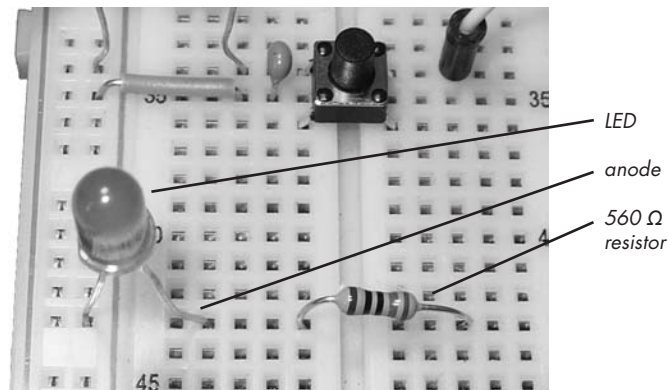

Figure 4-24: Inserting the LED and 560 Ω resistor
5. Insert the LED into the breadboard with the short leg (the cathode) connected to the GND column, and the long leg (the anode) in a row to the right. Next, connect the 560 Ω resistor to the right of the LED, as shown in Figure 4-24.